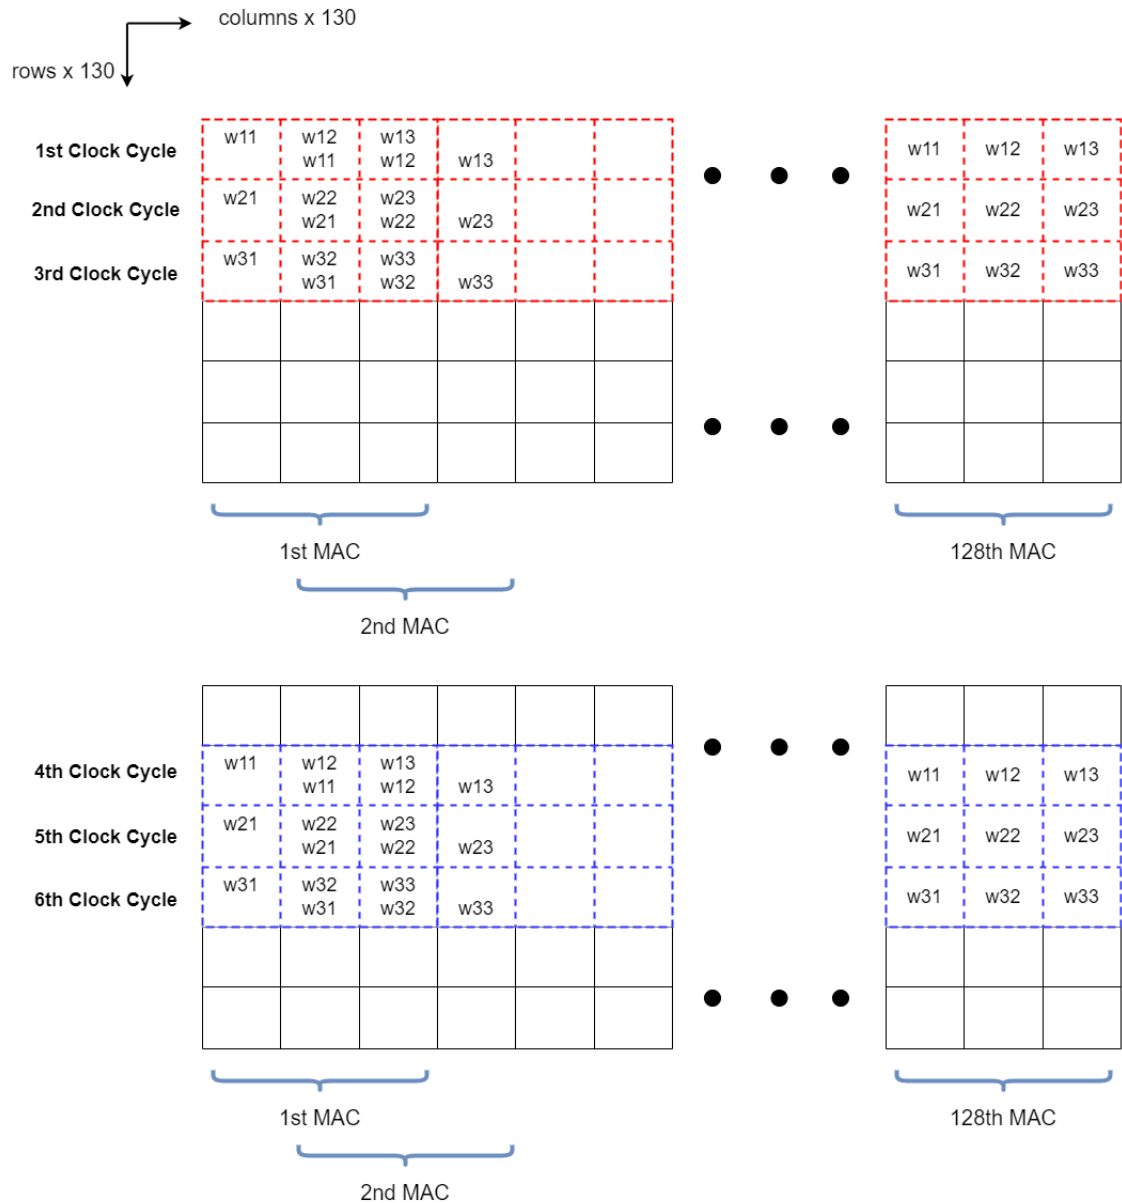

Figure 3: Parallel Convolution
2. This module should provide the **ram addresses** for Block RAM1 and **input weights** for CONV128 block. When **conv_run** signal is set, controller starts the convolution operation and give the appropriate addresses and weights. Define a 2-bit register **counter** to count the number of accumulations of the parallel MAC units. For each count, Block RAM1 address should be incremented by 1 and 24-bit weights should be shifted. Parallel convolution operation can be shown in **Figure 3**.